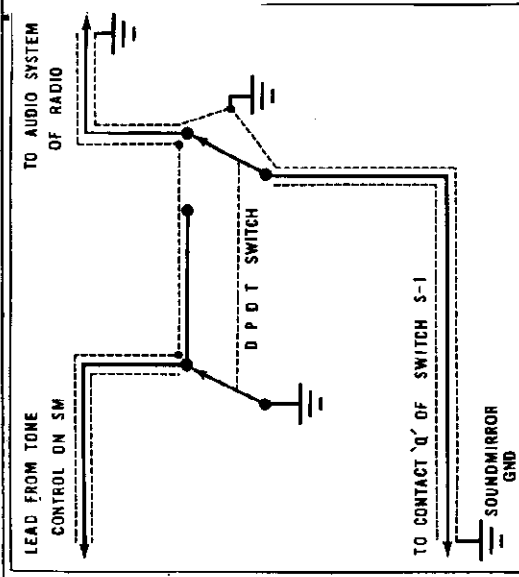

Fig. 41—Soundmirror Connection to Radio
through that system. A connection for this purpose is illustrated in Fig. 41. The double pole double throw toggle switch shown may be installed on the back of the Soundmirror.
2. Connect the D. P. D. T. Switch, as instructed in Fig. 41, to the contacts remaining vacant as a result of step 1 above.